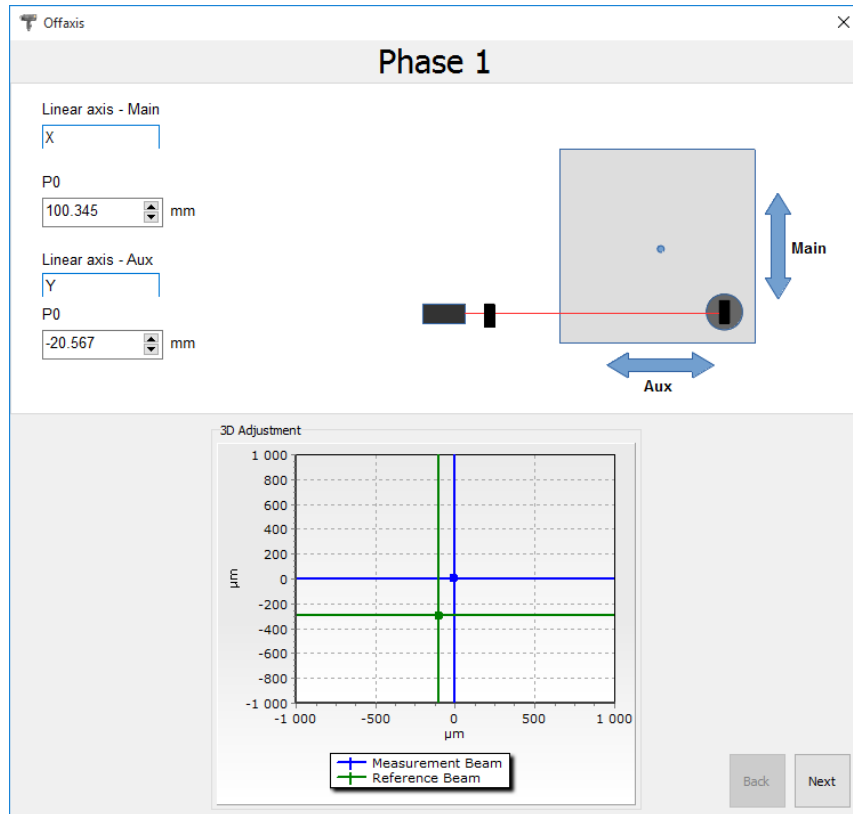

FIG.14.17. PHASE 1 OF THE OFF-AXIS PATH GENERATION
- 1) **Phase 1** – Main axis of the machine (see Figure 14.17) is to be moved to make the laser beam alignment crosses close to the center of the adjustment chart (fig. 14.17). With the movement of the auxiliary axis there is to be set a distance between IK1 element and
the central unit. The accuracy of this distance should be better than 10cm and does not have to be kept very precisely. After the machine is set, the markings of the Main and Aux axes are to be put in the software window – in *Linear axis – Main* and *Linear axis – Aux* fields respectively. In the example in the figure 14.17 Main is axis X, Aux is axis Y. The values from the machine absolute coordinate system are the written in the software as well in the *P0* fields.